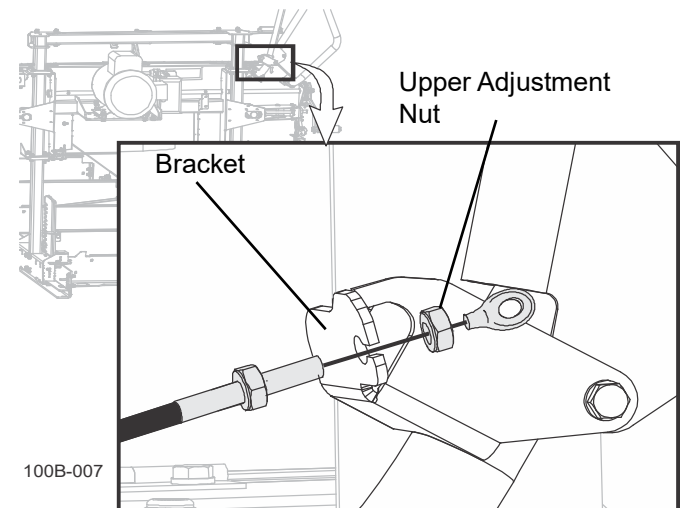

FIG. 1-26
- Return the adjustment nut to the cable fitting. See FIG. 1-26.